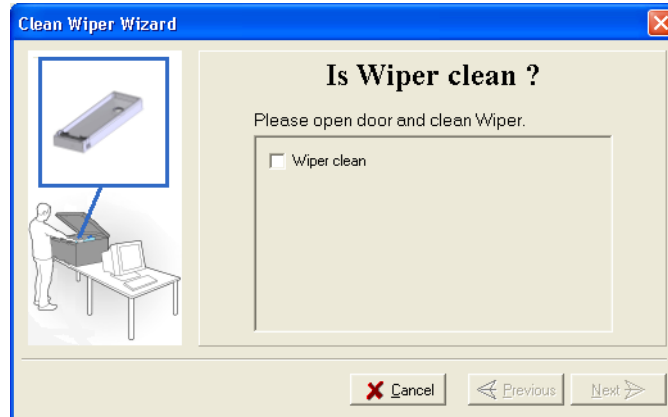

Figure 7-29: Wiper Cleaning wizard during steps 7–10
10. In the wizard screen (see figure 7-29), confirm that the wiper blade is clean, and click Next.